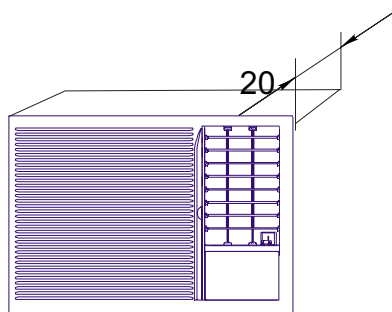

Fig.5
- A clearance of 20 mm is advisable between the appliance cabinet and the wall as shown in Fig.5.